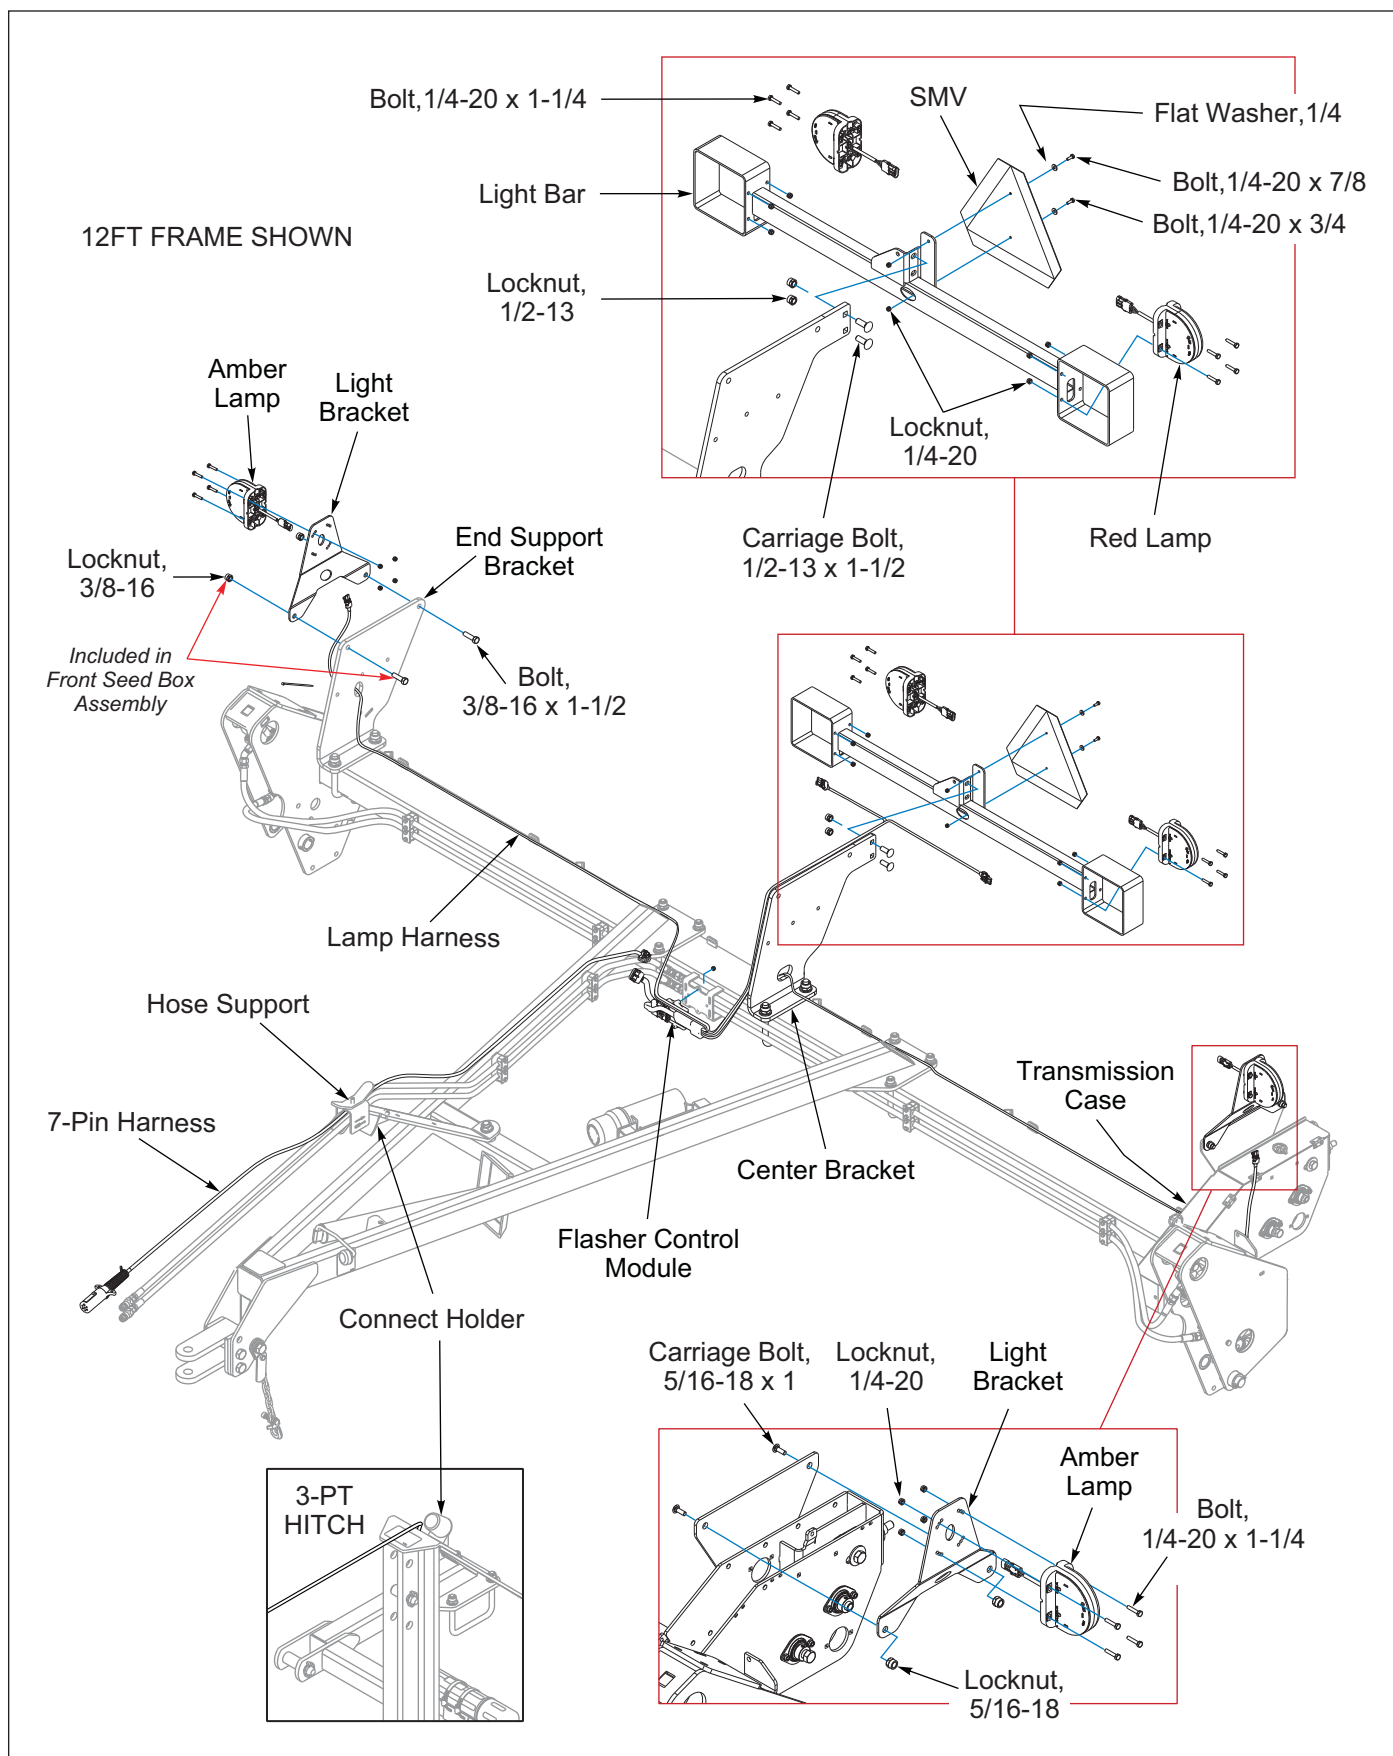

Figure 2-21: Warning Lamp Installation (After 06/2026)
1. Attach an Amber Lamp to each of the outside Light Brackets with 3/8-16 x 1-1/2 Bolts and Locknuts. **See Figure 2-21.**
7. If not installed, attach the Connector Holder to the Drawbar Hose Support or 3-PT Hitch. See Parts Manual for hardware. **See Figure 2-21.**